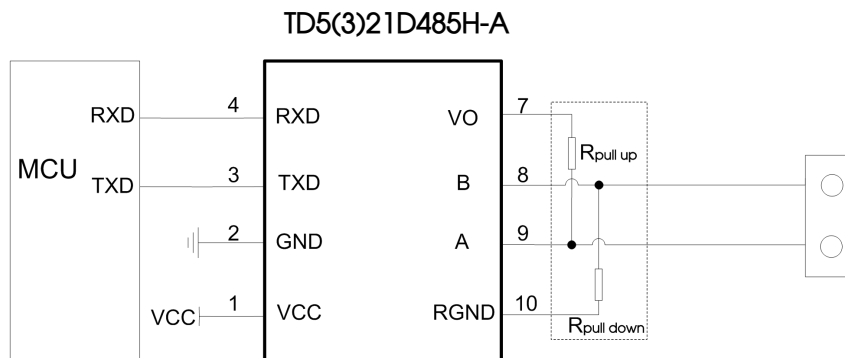
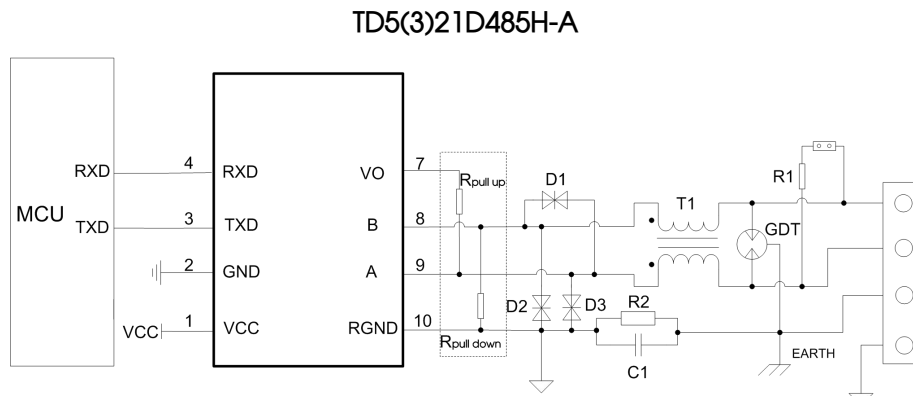

Fig.1
Fig.2
IEC/EN 61000-4-2	Contact $\pm 8kV$ (see Fig.2, A,B port) Perf. Criteria B
IEC/EN 61000-4-5	$\pm 4kV$ (see Fig.2, A,B port) Perf. Criteria B
As shown in Figure 1, the picture shows TD5 (3) 21D485H-A isolated transceiver module typical connection circuit, R pull-up, R pull-down for the external reserve pull-down resistor bit, according to the actual situation to choose whether the need for external up and down resistance. TD5(3)21D485H-A isolated transceiver module has built-in 47kΩ pull-down resistor, under normal circumstances the use of internal pull-up, pull-down resistor to meet the demand.
As the module internal A / B line comes with ESD protection, so users generally apply to the environment in good circumstances without additional ESD protection devices, as shown in Figure 1, the typical connection circuit. But if the application environment is relatively poor (such as high voltage power, lightning and other environments), it is recommended that users must be in the module A / B line side plus TVS tube, common mode inductors, Gas discharge tube, shielded twisted pair or the same network single point Earth and other protective measures. Therefore, the recommended application circuit shown in Figure 2, the recommended parameters as shown in the table. Recommended circuit diagram and parameter values for reference only, according to the actual situation to determine whether the need for circuit diagram of the device and the appropriate parameter values.